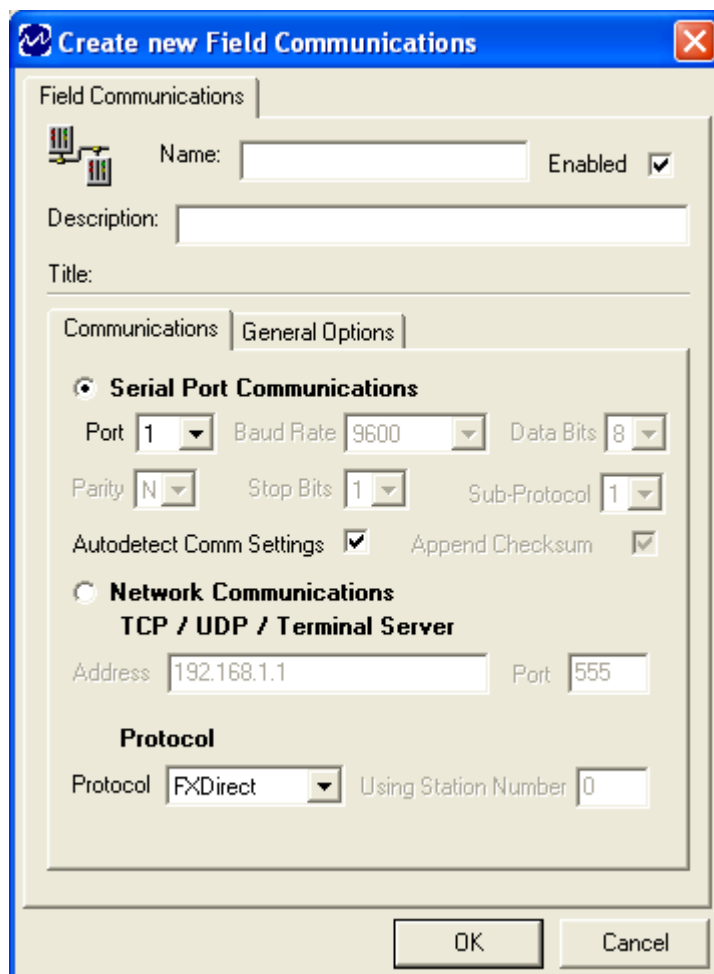

Figure 17 - Create New Field Communications Window (Communications Tab)
The **Create New** window (Figure 17) displays the settings available for a new object.
Figure 17 displays the **Create New Field Communications** window with the **Communications** tab selected.
5. The **Create New** window appears (Figure 17).